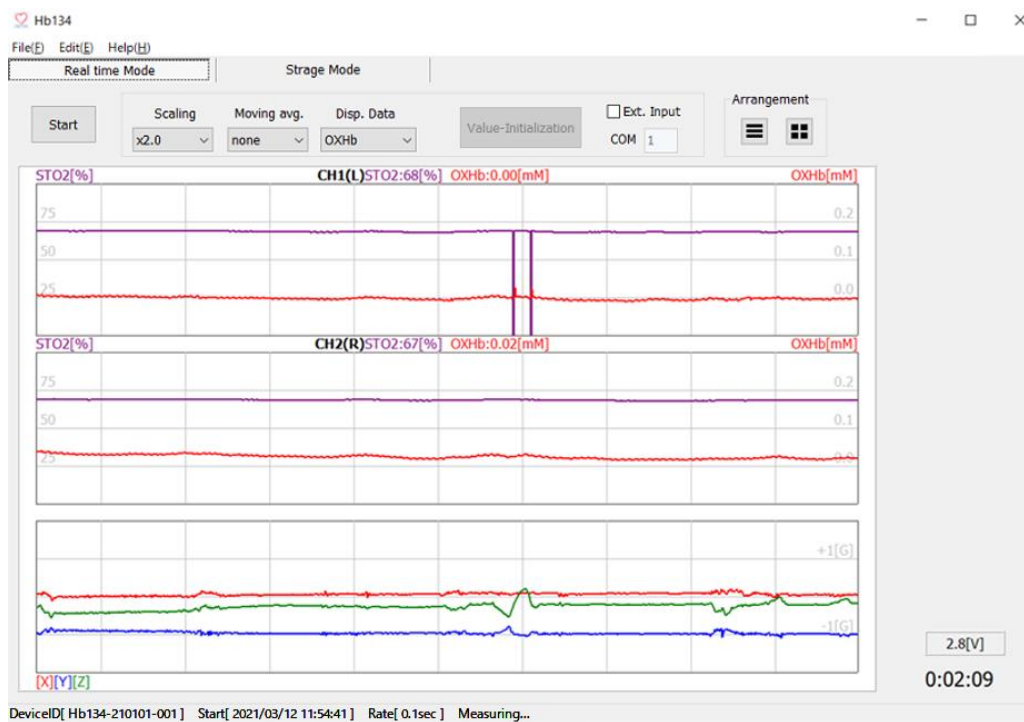

Figure 2. Trend graphs (Horizontal)
- (4) It takes up to 10 seconds for the computer and the device to reflect the setting and start measurement.
- (5) Trend graphs will be displayed when the measurement started. The arrangement of trend graphs can be switched to horizontal/vertical from “Arrangement” (Figure. 2).